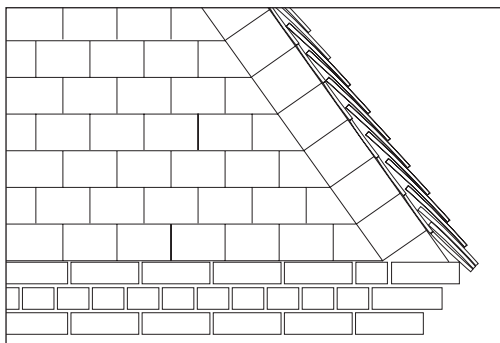

Fig 85 – Fixing tiles to raked batten
- Fix edge tile close to undercloak/soffit, securing by spot bedding and double nailing into raking batten (Fig 85).